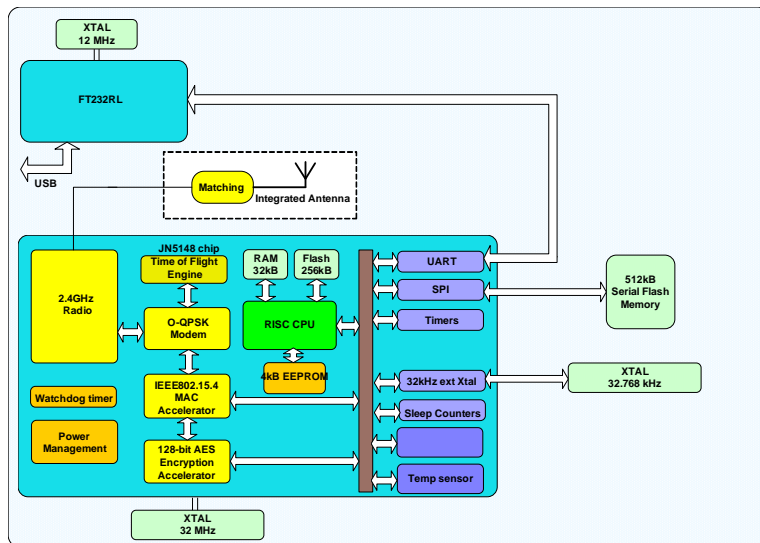

Figure 2: Dongle Block diagram
In the transmit direction, the digital stream from the Modem is passed to a digital sigma-delta modulator which controls the feedback dividers in the synthesiser, (dual point modulation). The VCO frequency now tracks the applied modulation. The 2.4 GHz signal from the VCO is then passed to the RF Power Amplifier (PA), whose power control can be selected from one of three settings. The output of the PA drives an external Skyworks Front End Module which houses an LNA, PA and necessary RF switching as shown in figure 2 the module block diagram.